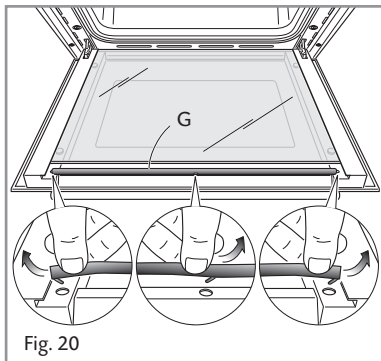

Fig. 20
- Top oven door only: remove the seal **G** by unhooking the no. 3 fixing hooks (fig. 20).